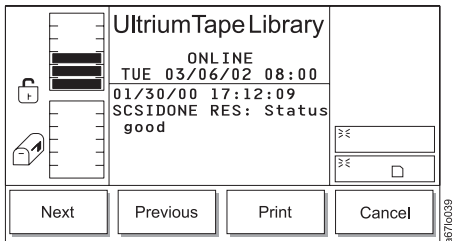

Figure 4-42. Command Log Dialog
3. Press the button below the **Command Log** softkey. The Command Log Dialog displays the date and time of the most recent library operation and any message text (see Figure 4-42). The screen presents one operation at a time. For each operation, the date is shown as mm/dd/yy, where mm equals the month, dd equals the day, and yy equals the year. The time is shown as hh:mm:ss, where hh equals the hour, mm equals the minute, and ss equals the second. The message text is useful to Engineering only.